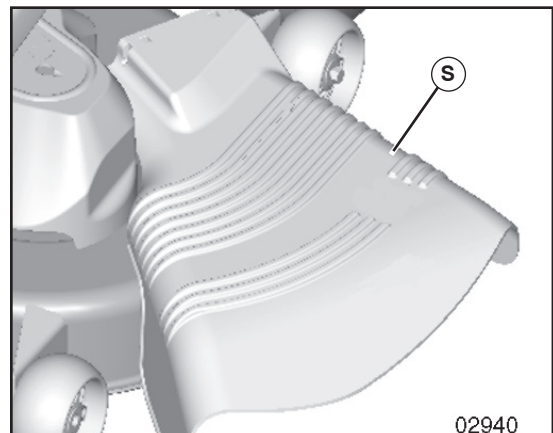

Fig. 11
CAUTION: Do not operate the mower without either the entire grass catcher, on mowers so equipped, or the deflector shield (S) in place. (Fig. 11)